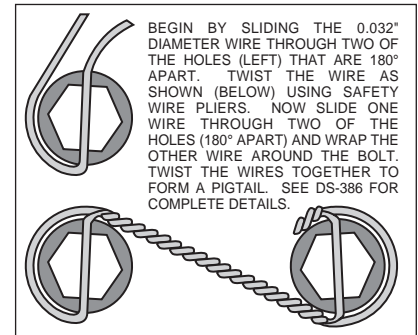
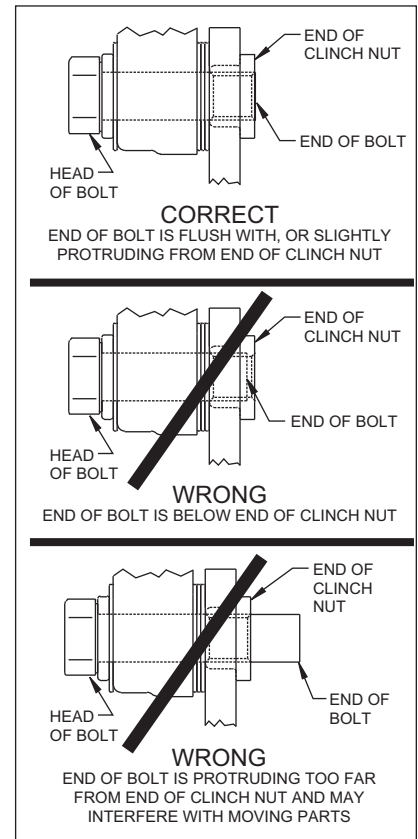

Figure 4. Safety Wire Diagram
Figure 5.
- With the slot pointing upward and the mounting ears pointing towards the rear of the vehicle, install the caliper mounting bracket (1) to the housing flange using the stock Original Equipment Manufacturer (OEM) bolts and nuts. Stock OEM hex nuts that retain the bracket (1) should be on the wheel side of the bracket. Apply red *Loctite*® 271 to the stock OEM bolt threads and torque to OEM specifications. **NOTE:** Some brackets act as the bearing retainers, while others help locate the bearing in the axle housing flange. If the stock bearing plates are still on the axle, the caliper mounting brackets (1) should be located between the axle housing flange and the bearing retainer plate. Make sure the heads of the caliper mounting bracket insert nuts are FACING OUTWARD TOWARDS THE WHEEL.
- Bolt the hat (2) to the rotor (3) using washers (4) and bolts (5). Torque bolts (5) to 180 **in-lb**. Safety wire bolts (5) using standard 0.032 inch diameter stainless steel safety wire as shown in Figure 4. Please refer to Wilwood's data sheet DS-386 (available at [www.wilwood.com/pdf/ds386.pdf](http://www.wilwood.com/pdf/ds386.pdf)) for complete safety wire installation instructions.
- Align the correct hole pattern in the hat (2) with the stud pattern on the axle flange. **NOTE:** Some OEM and after market axles come with stud sizes larger than 0.50" diameter. Verify stud size and have a qualified machine shop drill the hats to the correct size. Slide the hat/rotor assembly (2 and 3) over the wheel studs and against the axle flange face.
- NOTE:** Please reference the caution statement at the beginning of the assembly instructions. WITH THE BLEED SCREWS POINTING UP, mount the caliper (6) over the rotor (3) and onto the caliper mounting bracket (1) using washers (7) and mounting bolts (8). View the rotor through the top opening of the caliper. The rotor should be aligned in the center of the caliper. If not, adjust the caliper by using 0.032 inch shim washers (9), placing them between the caliper mounting bracket (1) and the caliper (6). Add as many shim washers (9) as necessary to achieve the correct alignment. **NOTE:** The end of the bolt must be flush with or slightly protruding from the head of the clinch nut. See Figure 5. Place spare shims (9) between washer and caliper mounting ear to achieve the proper mounting fastener configuration. Always use the same amount of shims on both the top and bottom caliper mounting bolts (8). Apply red *Loctite*® 271 to the mounting bolt threads (8), torque bolts to 30 ft-lb. Safety wire the caliper mounting bolts (8).
- Position the Wilwood disc brake pads (10) into the caliper (6) and fasten with cotter pin (11). Steel backing plate side of brake pad should face the caliper pistons.